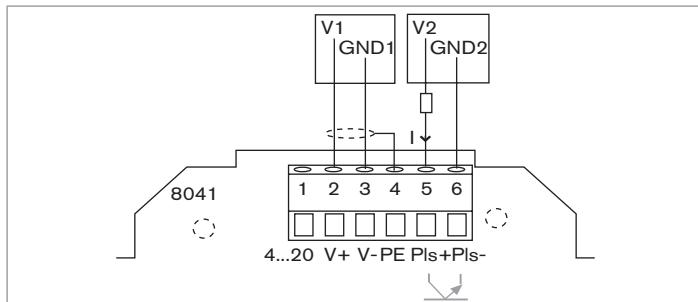

Fig. 21 : Frequency output connection to an electronic counter with its own power supply
- or to a charge such as an electronic counter with its own power supply (see Fig. 21).